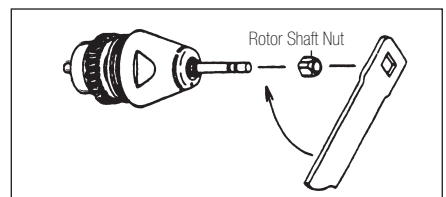

Fig.15
- 3) Finally insert the rotor shaft nut along the test bur, and firmly tighten it with a wrench while holding the rotor. (Fig.15)